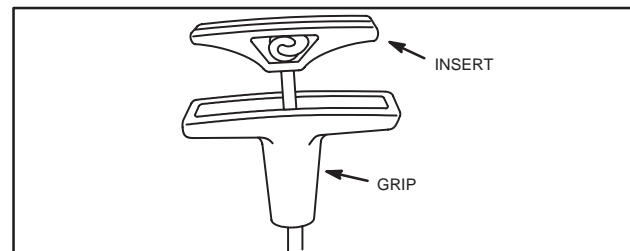

Fig. 631 – INSTALLING ROPE
- Pull knot into insert pocket and snap insert into grip, Fig. 631.
18. After installing alternate style starter on engine, route rope up to equipment control handle and install handle and insert, Fig. 631.